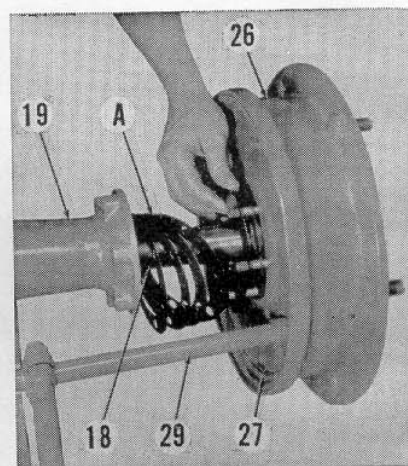

Fig. FO69—Removing axle shaft and brake assembly on models 2N-9N to adjust end play of wheel axle shafts.
88A. To adjust bearings, remove shims (A—Fig. FO69 or 3—Fig. FO70) from between right or left bearing retainer and axle housing, until both shafts rotate in same direction when one is turned. Then add shims until shafts start turning in opposite directions. This procedure will hold end play from .002 to .006. Shims, Ford part 8N4229, are available in thicknesses of .008, .015 and .020.
89. WHEEL AXLE SHAFT & BEARINGS. Jack up rear end of tractor and remove rear wheel and tire assembly. Remove bearing retainer stud nuts as shown in Fig. FO69, and pull shaft and brake assembly out of axle housing. Lift off brake and backing plate assembly to expose bearing retainer collar.
93. Jack up rear end of tractor and remove rear wheels. Remove bearing retainer stud nuts and pull brake assembly and axle shaft out of axle housing. Lift brake backing plate off bearing retainer studs and remove brake shoe retracting springs and shoes. Reinstall brakes and adjust as described in paragraph 91. Refer to Fig. FO69.